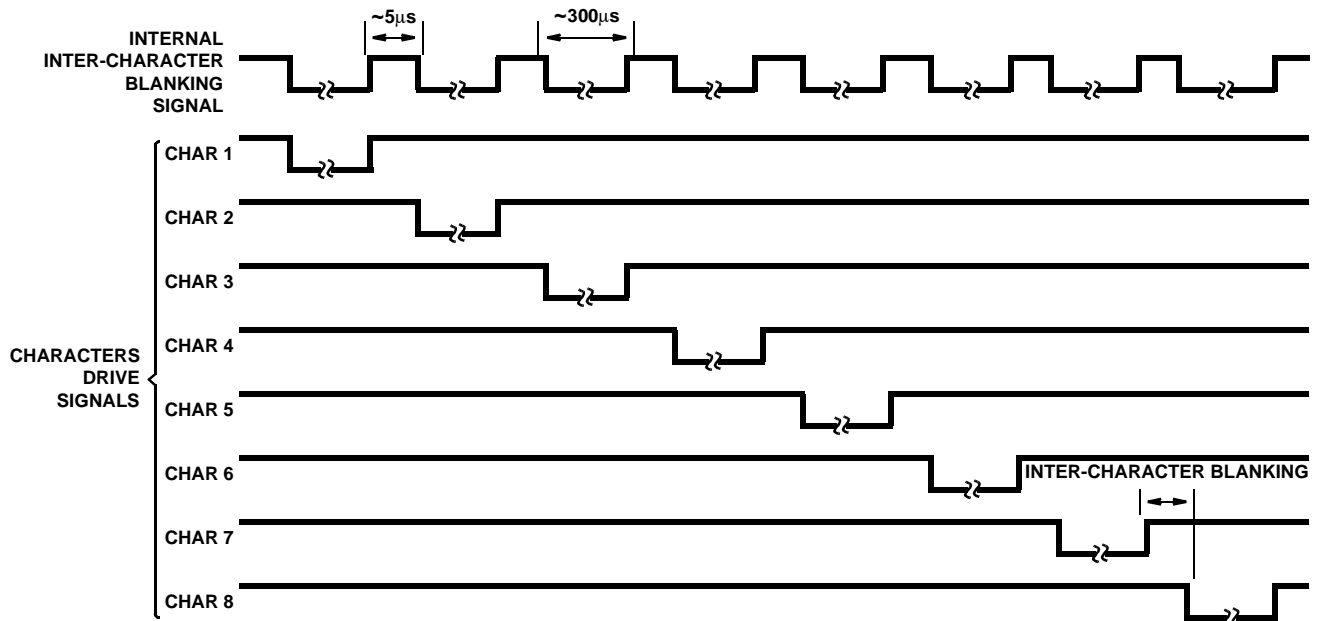

FIGURE 3. DISPLAY CHARACTERS MULTIPLEX TIMING DIAGRAM
**Random Access Mode** - When the internal mode latch is set for **Random Access (RA)** (MODE latched low), the Address input on A0, A1 and A2 will be latched by the falling edge of  $\overline{WR}$  (or its equivalent). Subsequent changes on the Address lines will not affect device operation. This allows use of a multiplexed 6-bit bus controlling both address and data, with timing controlled by  $\overline{WR}$ .
**Sequential Access Mode** - If the internal latch is set for **Sequential Access (SA)**, (MODE latched high), the Serial Enable input or SEN will be latched on the falling edge of  $\overline{WR}$  (or its equivalent). The  $\overline{CLR}$  input is asynchronous, and will force-clear the Sequential Address Counter to address 000 (CHARACTER 1), and set all Data Memory contents to 100000 (blank) at any time. The DISPLAY FULL output will be active in **SA** mode to indicate the overflow status of the Sequential Address Counter. If this output is low, and SEN is (latched) high, the contents of the Counter will be used to establish the Data Memory location for the Data input. The Counter is then incremented on the rising edge of  $\overline{WR}$ . If SEN is low, or DISPLAY FULL is high, no action will occur. This allows easy "daisy-chaining" of display drivers for multiple character displays in a **Sequential Access** mode.
**OSC/OFF** - The device includes a relaxation oscillator with an internal capacitor and a nominal frequency of 200kHz. By adding external capacitance to  $V_{DD}$  at the OSC/OFF pin, this frequency can be reduced as far as desired. Alternatively, an external signal can be injected on this pin. The oscillator (or external) frequency is pre-divided by 64, and then further divided by 8 in the Multiplex Counter, to drive the CHARACTER drive lines (see Figure 3). An inter-character blanking signal is derived from the pre-divider. An additional comparator on the OSC/OFF input detects a level lower than the relaxation oscillator's range, and blanks the display, disables the DISPLAY FULL output (if active), and clears the pre-divider and Multiplex Counter. This puts the circuit in a low-power-dissipation mode in which all outputs are effectively open circuits, except for parasitic diodes to the supply lines. Thus a display connected to the output may be driven by another circuit (including another ICM7243) without driver conflicts.